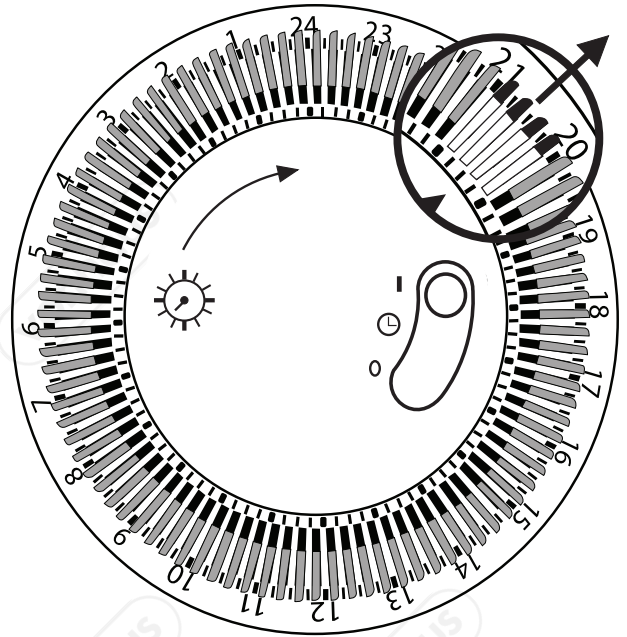

Fig 1
**1.** Turn the radiator upside-down on a scratch-free and stable surface to prevent damage to the paint finish or your floor surfacing (**see Fig 1**).
**NOTE:** To set the heater to turn on at 8pm and turn off at 9pm, push 4 segments between 20 and 21 outwards (**Fig 1**).